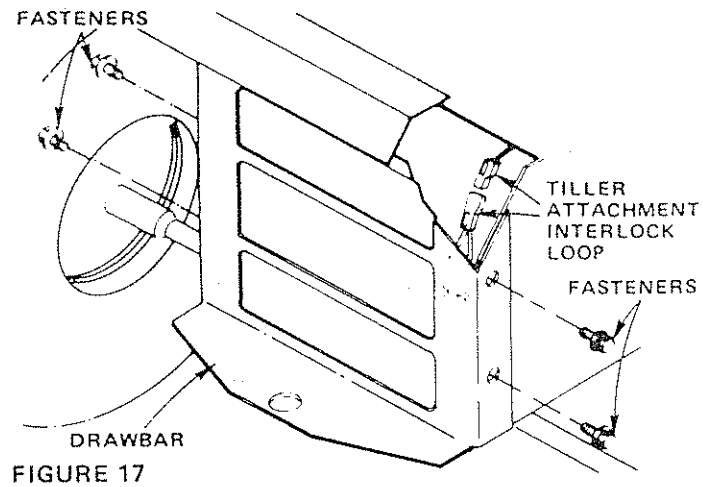

FIGURE 17
- Using a 9/16" wrench to remove 4 fasteners to remove Drawbar (Fig. 17).
- Disconnect Tiller Attachment Interlock Loop (Fig. 17).